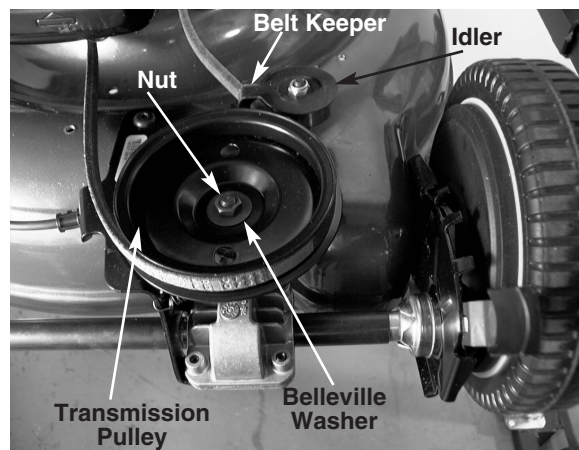

FIGURE 2.
3. Using a 7/16 socket and a 7/16 wrench, remove the idler and belt keeper from the unit. See figure 2.